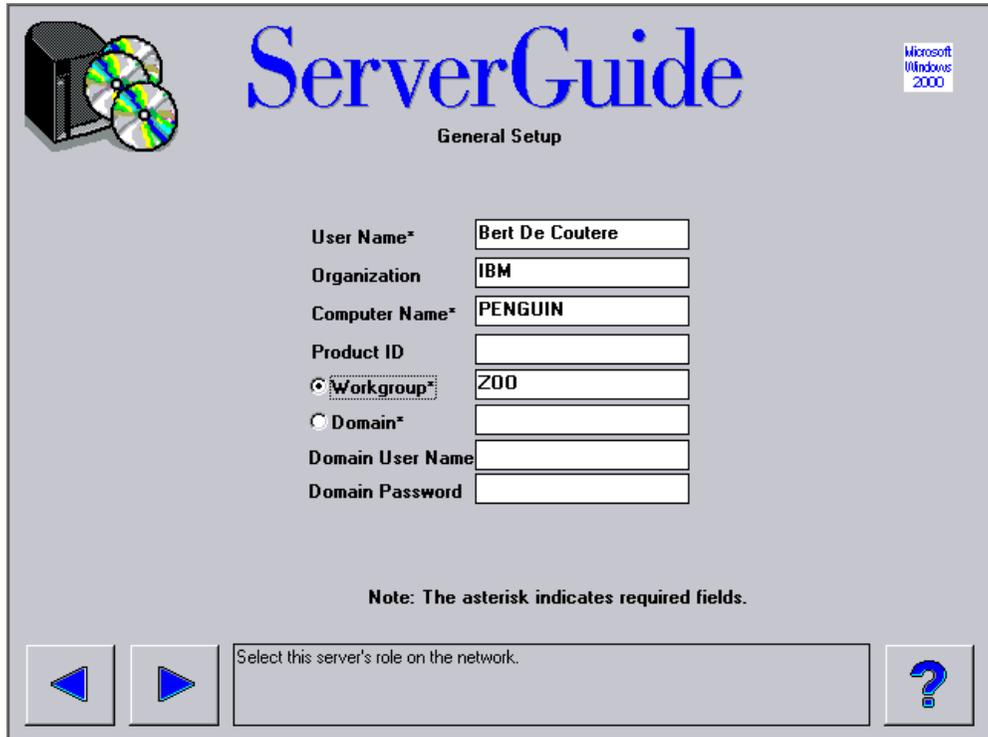

Figure 40. General Setup
20. At the next window, Figure 40, you will need to provide ServerGuide with information about the installation. Click  to continue.